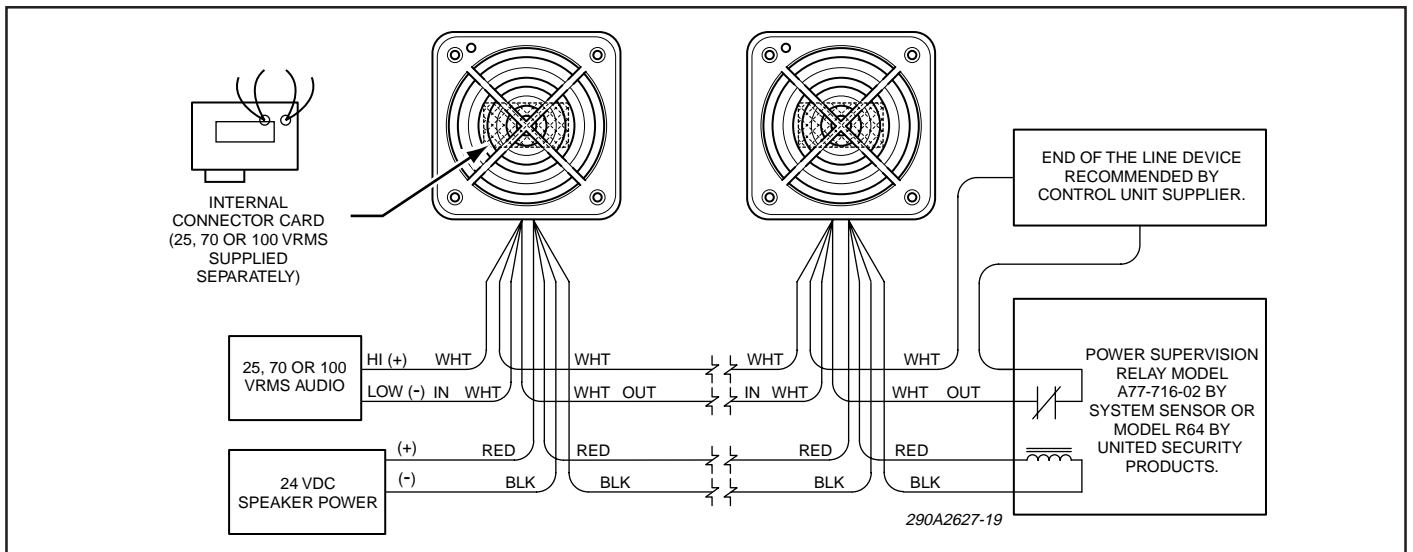

Figure 3. Typical Connector Card (PTCK) Installation Wiring.
a. See figure 3. Connect the device's red (+) leads to the power source positive (+) lead. Connect the device's black (-) leads to the power source negative (-) lead.
Check with authority having jurisdiction for proper application of EOL resistor and power supervision relay required (see figure 3).